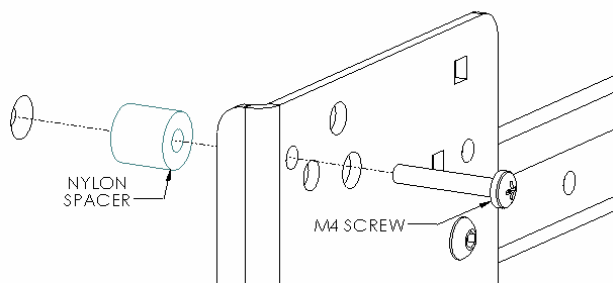
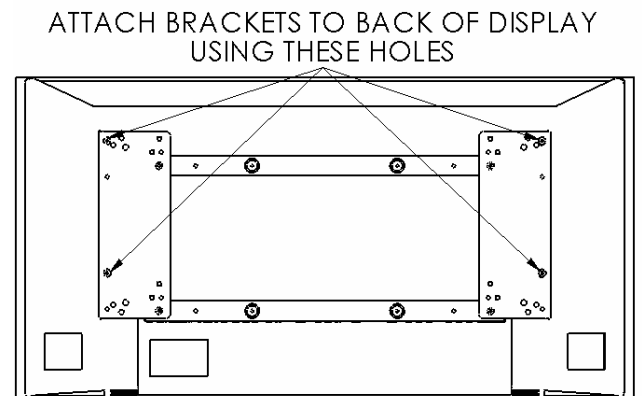

Figure 8
Figure 9
5. **Bracket Installation:** Place Nylon spacers over mounting holes of screen and attach brackets to back of display using the M4 screws (see Figure 8 & Figure 9). Do not over tighten screws.